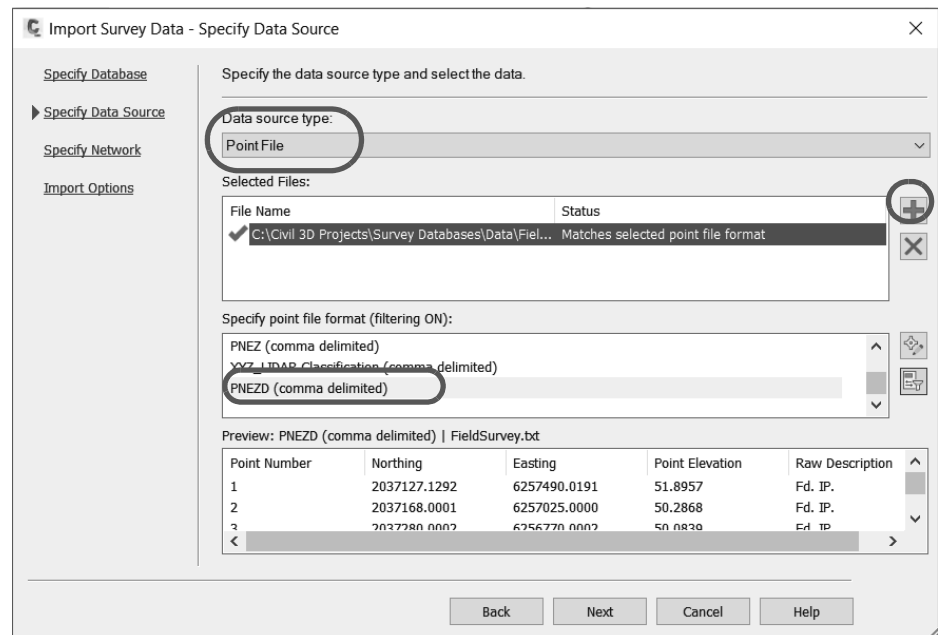

Figure 2-74
9. On the Specify Data Sources page, do the following, as shown in Figure 2-74: